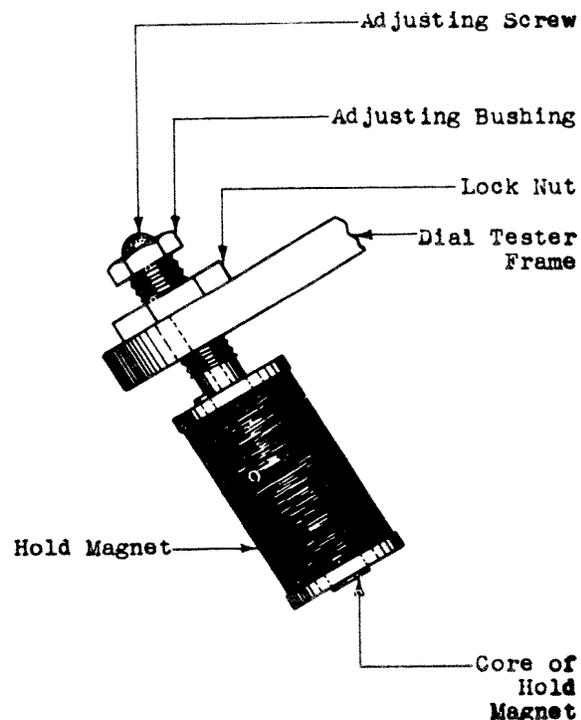

Fig. 29 - Designation of Parts of Hold Magnet
(2) For dial testers with serial number 1 to 60 inclusive, use the KS-6854 screwdriver instead of the No. 368 wrench for making this adjustment.
(3) If the pendulum swings too far to the left, shift the disc to the left and if it swings too far to the right, shift the disc to the right.
(4) No adjustment of the relation between the contact arm and the pendulum should be made unless the hold magnet has become loosened or it is impossible to meet requirement 2.11 by relocating the pendulum balance weight.
(5) Do not attempt to adjust without first allowing the reset arm to return to normal.
(6) To adjust the hold magnet loosen the lock nut with the No. 243 wrench, hold the adjusting bushing with the No. 245 wrench and loosen the adjusting screw with the KS-6854 screwdriver.
(7) Then turn the adjusting bushing in or out as required and retighten the adjusting screw. Then tighten the lock nut. See Fig. 29.